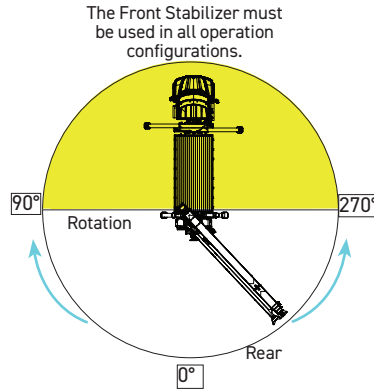

Fig 4
1. Set crane on outriggers. Select an open area without obstructions where the retracted boom can be rotated from the 0° position either right or left toward the 90° or 270° positions as shown in Fig. 4.